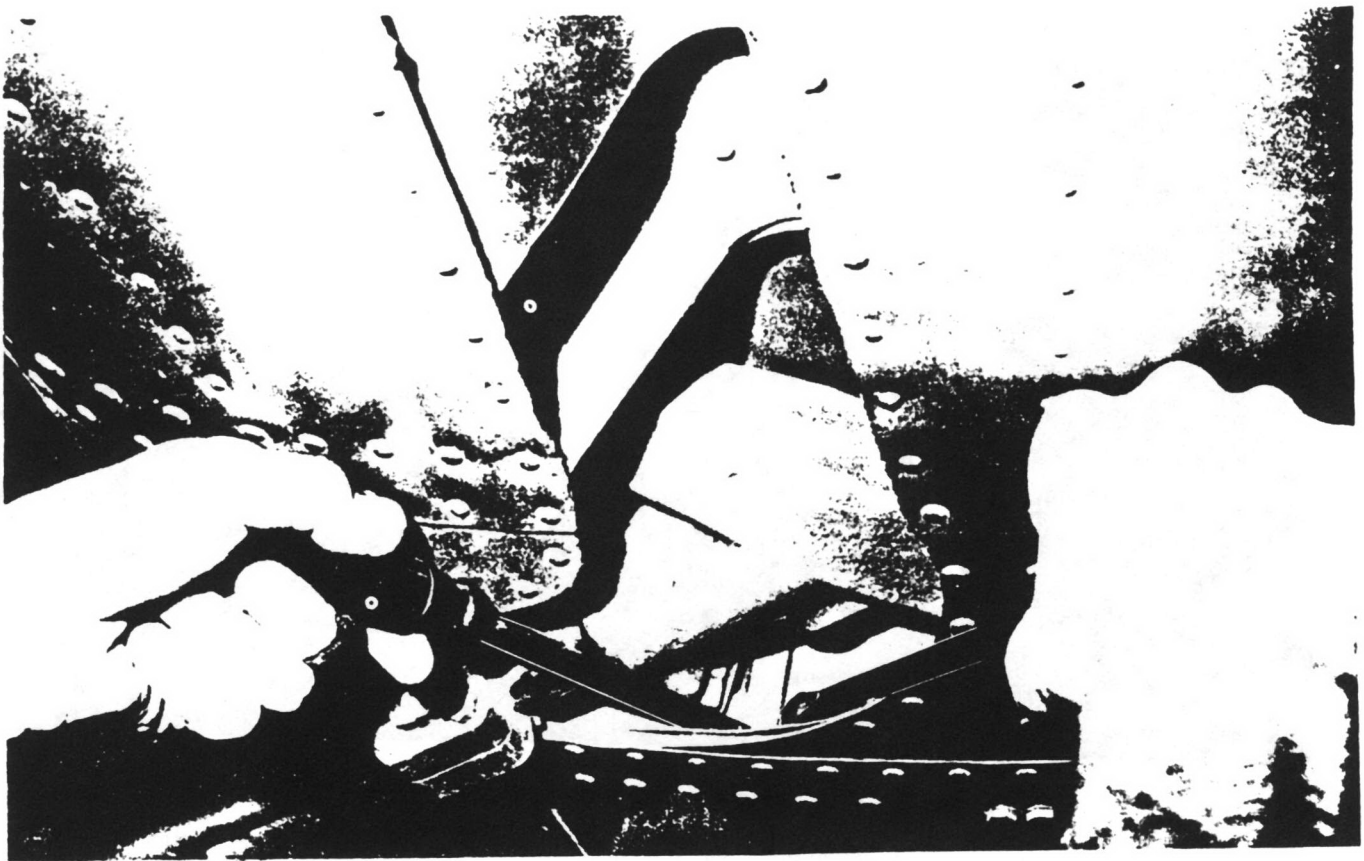
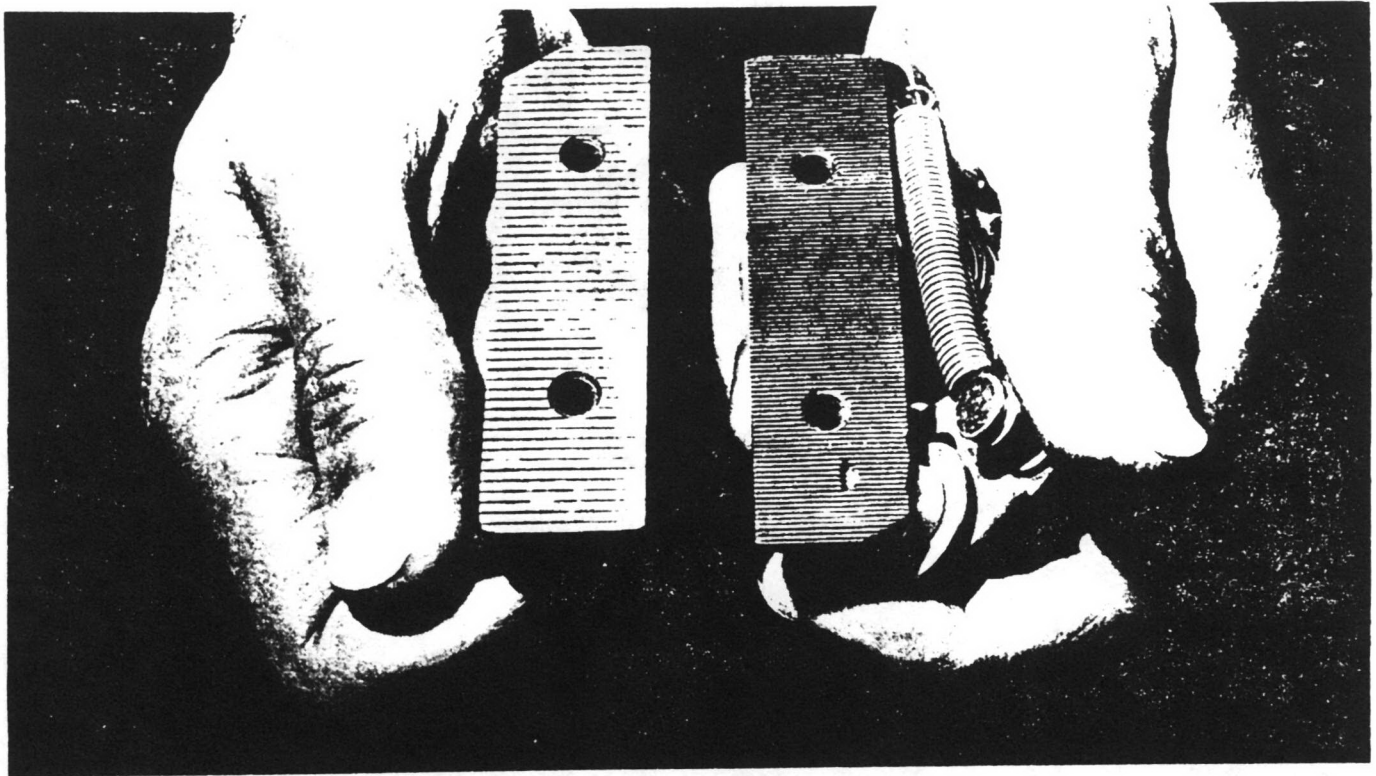

Figure 5-13. Adjusting Downlocks Vertically and Outboard
Figure 5-14. Downlock Support Assemblies
4. Pins in pivot assemblies (3) should be engaged in downlock latches and locks tripped to "locked" position.
5. Move downlock (8) vertically to position lower leg of downlock latch solid against bottom of pin (17) and outboard (horizontally) to obtain .02 to .06 dimension shown in view A-A. This will approximately center latch horizontally on exposed portion of pin (17). Refer to figure 5-13 for correct method of adjustment.
TIGHTEN 2 FORWARD BOLTS FIRST. TIGHTEN 1 AFT BOLT LAST. Refer to figure 5-13. If assembly does not tighten firmly against bulkhead and maintain position, check downlock support assemblies as shown in figure 5-14.
p. Adjust downlock limit switches (15) to make contact just before overcenter linkage passes center in the locking direction. Refer to figure 5-14.